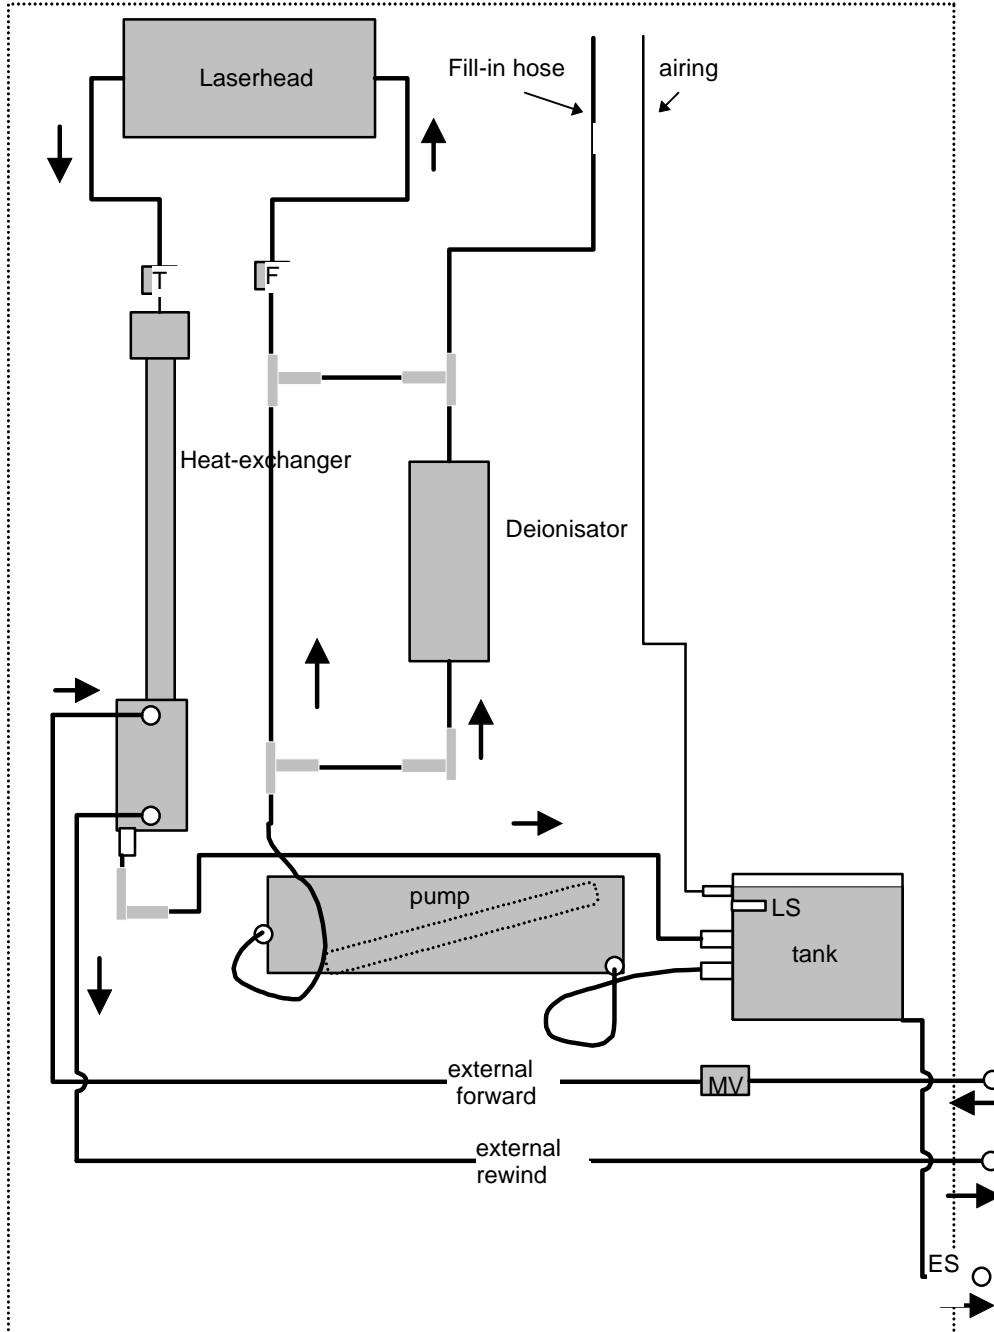

Fig. 36: Schematic diagram of cooling system
16. Reconnect the hoses as shown in Fig. 36.
15. Reconnect the hoses as shown in Fig. 36.